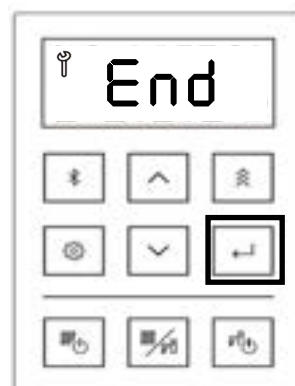

Figure 131
13. Push the Select button, and the display shows “End” (Figure 131).